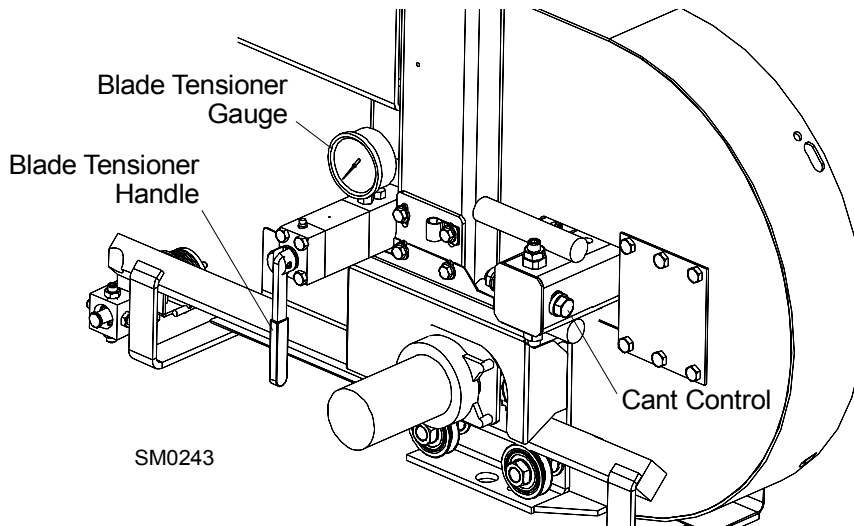

FIG. 2-2
See Figure 2-2.
See Figure 2-2. Tension the blade by turning the hydraulic tensioning handle clockwise until the tension gauge indicates the recommended tension.
4. To adjust where the blade travels on the blade wheels, use the cant control shown in **Figure 2-2**.